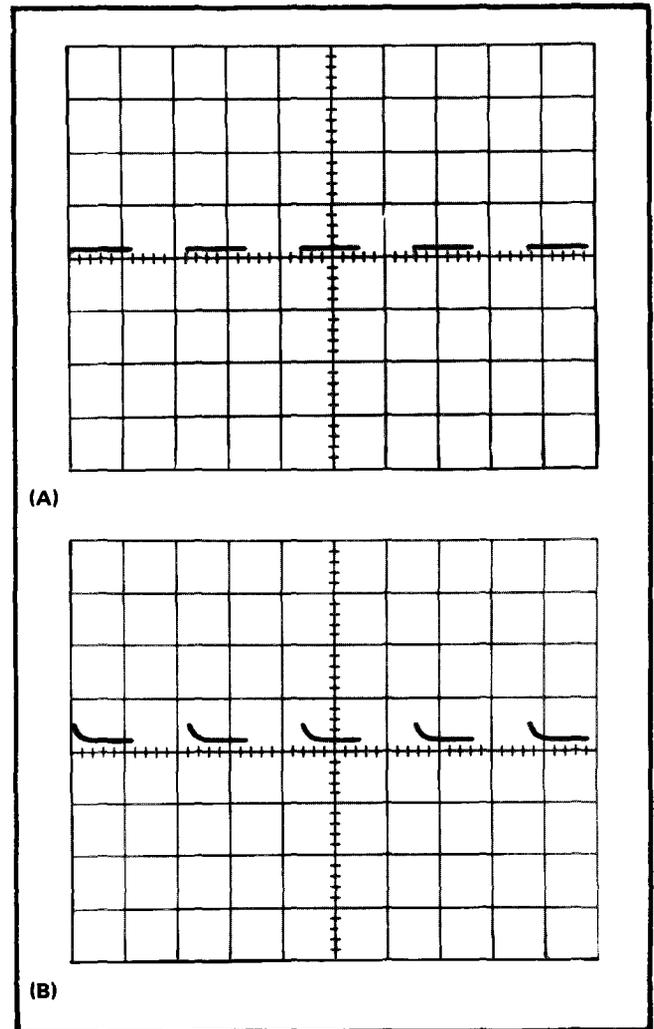

Fig. 5-3. Typical waveform showing (A) Cross neutralization properly adjusted, (B) incorrectly adjusted.
- b. CHECK—The upper leading corner of the waveform, and note any aberration that occurs while switching the -INPUT AC-GND-DC switch from GND to DC. The waveform should appear similar to the one in Fig. 5-3. The aberration should not exceed $\pm 1\%$.
c. CHECK—The lower leading corner of the second cycle of the display and note any aberration that occurs while switching the +INPUT AC-GND-DC switch from GND to DC. The bottom leading corner of the waveform should appear similar to the one shown in Fig. 5-3. The aberration should not exceed $\pm 1\%$.